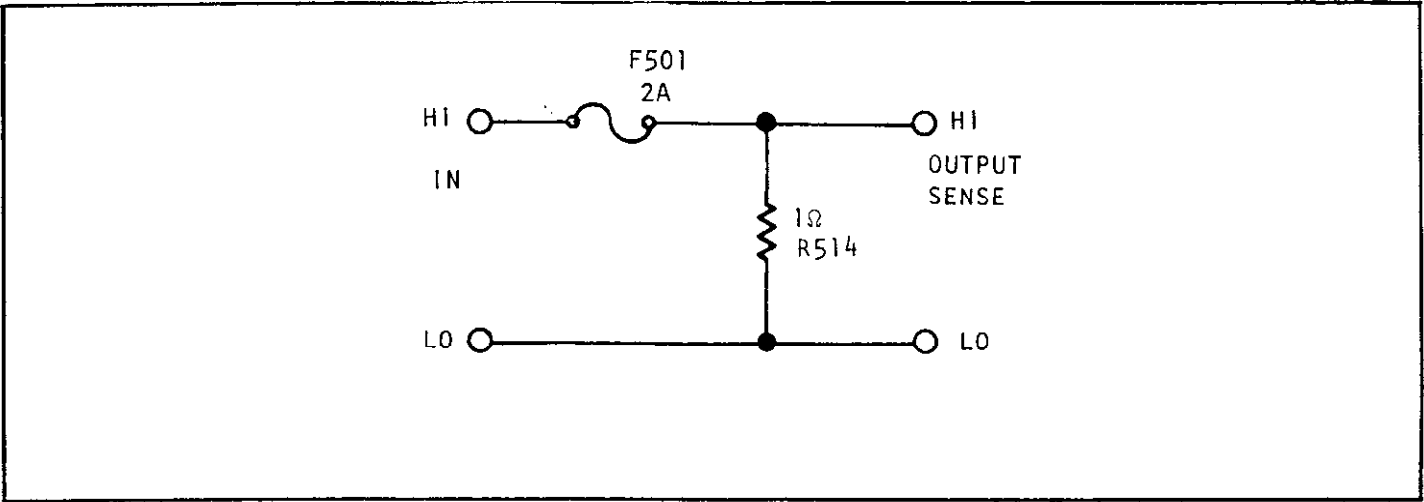

FIGURE 5-6. Simplified Schematic of Model 172A I/V Converter.
2) Model 172A I/V Converter. This current converter (shown in Figure 5-6) consists of a 1 ohm resistor (R154) and a 2A protection fuse (F501). The input current passes through the resistor developing an output voltage from 0 to 2 volts. For example: a 475mA input will produce an output voltage of 475mV. Since an ac current input will produce an ac voltage and a dc input will produce a dc voltage, the output of the I/V converter is routed through either the DC attenuator or the AC/DC converter before being applied to the A/D converter. Routing is controlled by the position of the DC/AC pushbutton, and the gains used are the same as those given in Table 5-2 for the 300mV (300m